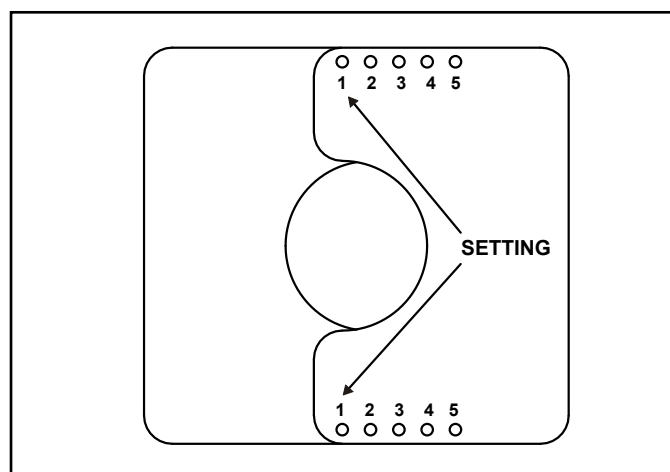

Figure 4.7 Setting the Exhaust Restrictor for MEZZO1300-AUD, MEZZO1300ST-AUD, MEZZO1600-AUD
2. The setting for MEZZO1300-AUD, MEZZO1300ST-AUD and MEZZO1600-AUD is 1-1. Align the holes marked "1" on the numbered exhaust restrictor piece with the hole on the other exhaust restrictor piece. See Figure 4.7. Center the exhaust restrictor on the vent and secure in place with two 1/2 in. (13 mm) self-piercing screws.